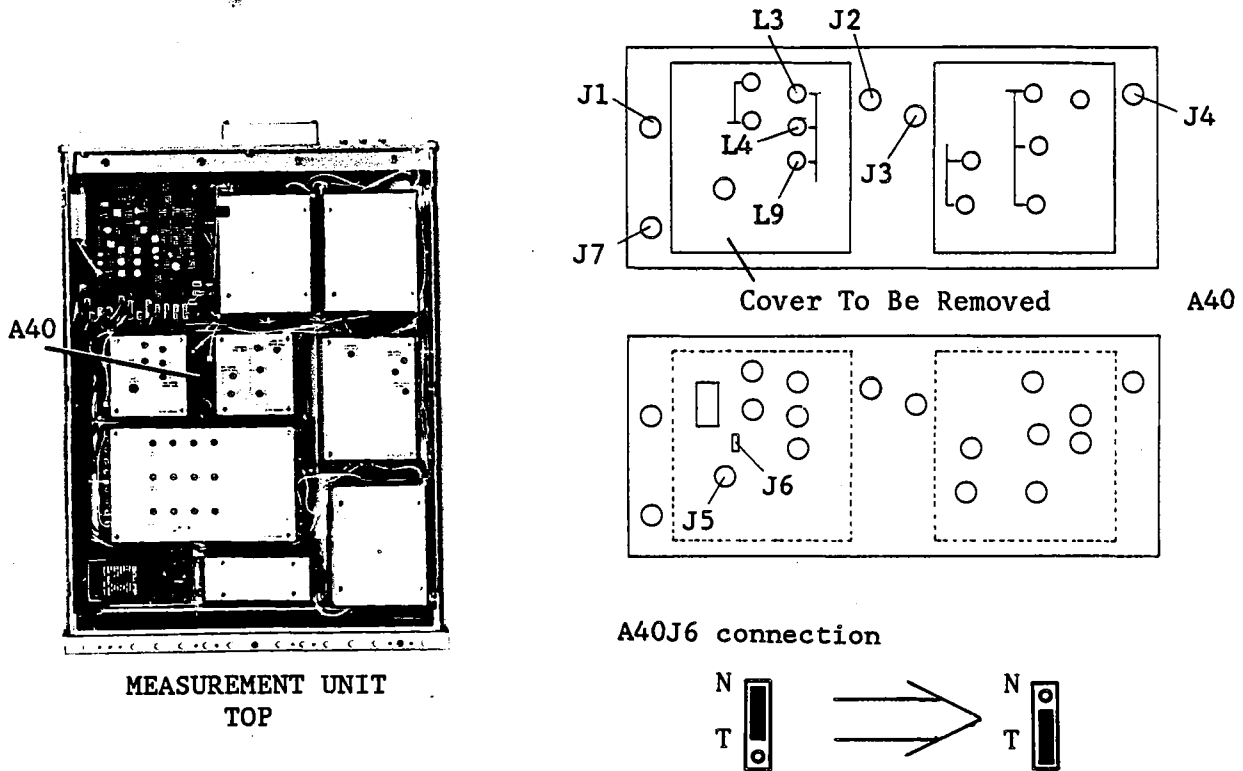

Figure 3-105. Source Second IF Converter Second 86.6 MHz BPF Adjustment Locations
1. Remove one of the shield covers (PN 04195-00654) from the A40 board. See Figure 3-105 for the location of the A40 board and the cover to be removed.